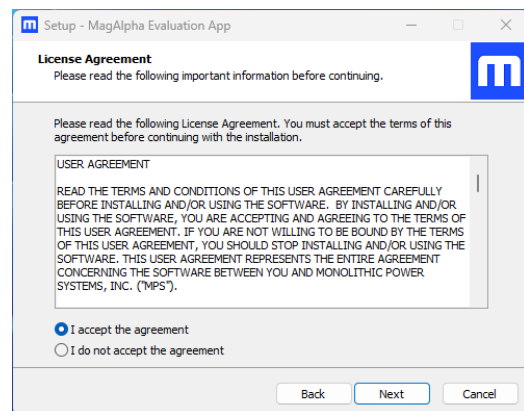

Figure 9: Installation Wizard (License Agreement)
2. Agree to the license agreement and click on “Next” (see Figure 9).